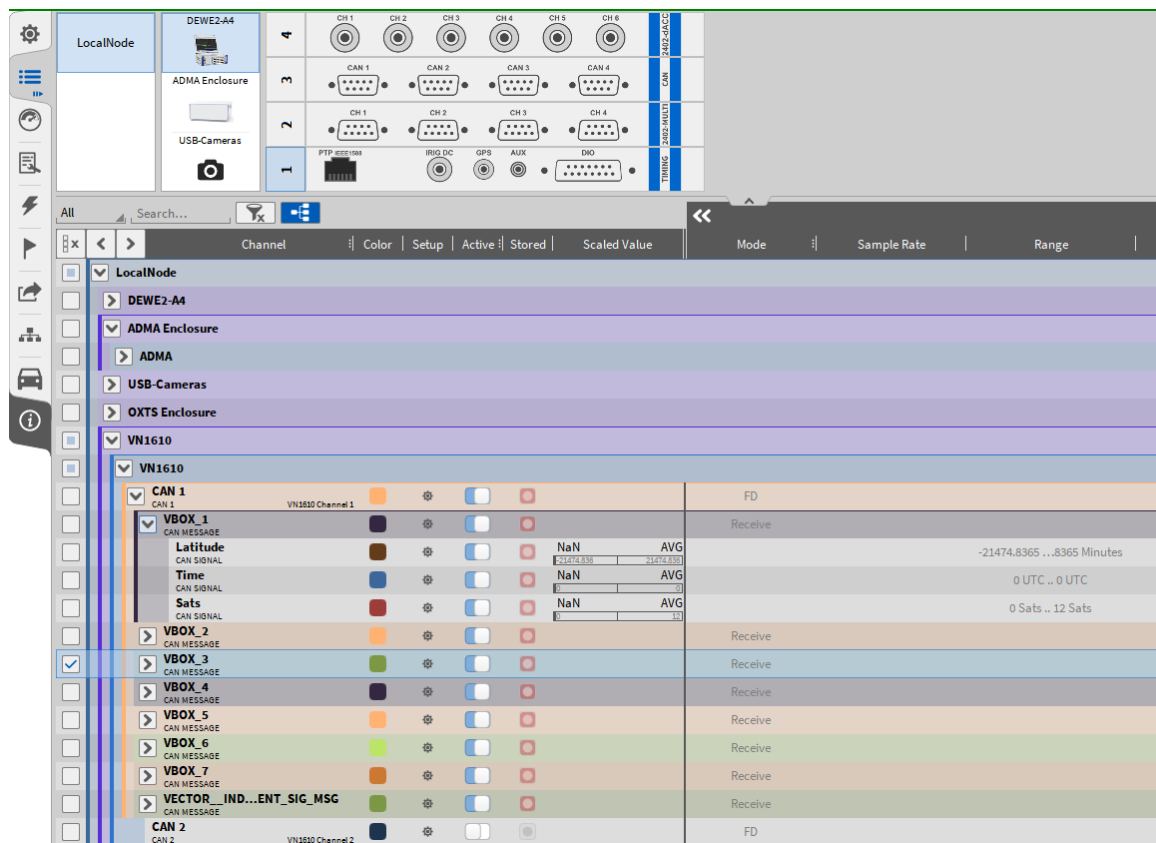

Fig. 4.56: CAN-FD channel list in OXYGEN
- After loading the channels from the dbc-file, an arrow positioned left to the Channel name will appear. A click on the Arrow will expand the CAN-FD channel list and show the individual CAN-FD messages including their channels (see Fig. 4.56).